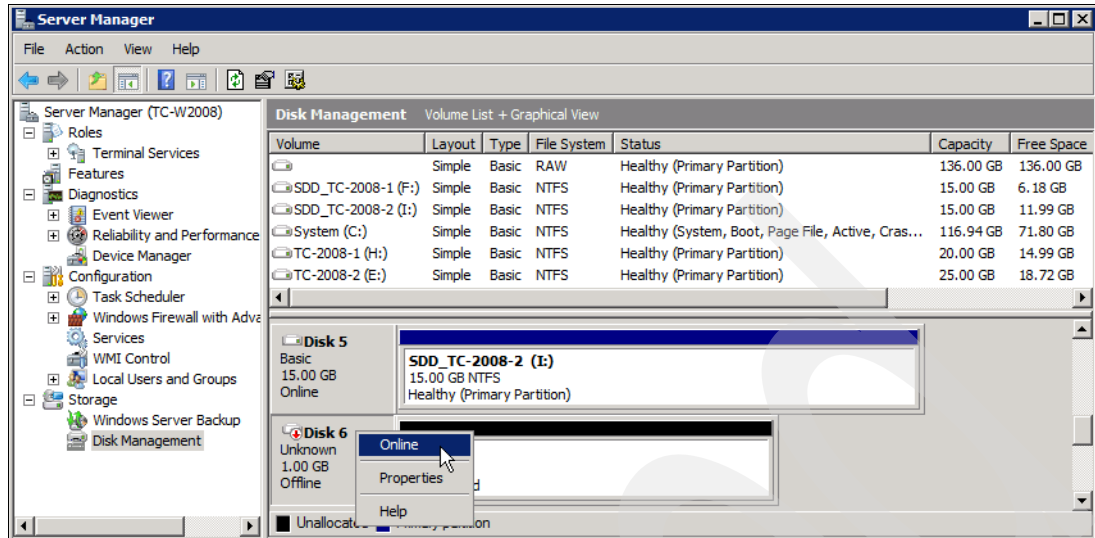

Figure 4-17 Changing disks to Online
2. To start using one of the disks, right-click it and select **Online**, as shown in Figure 4-17.